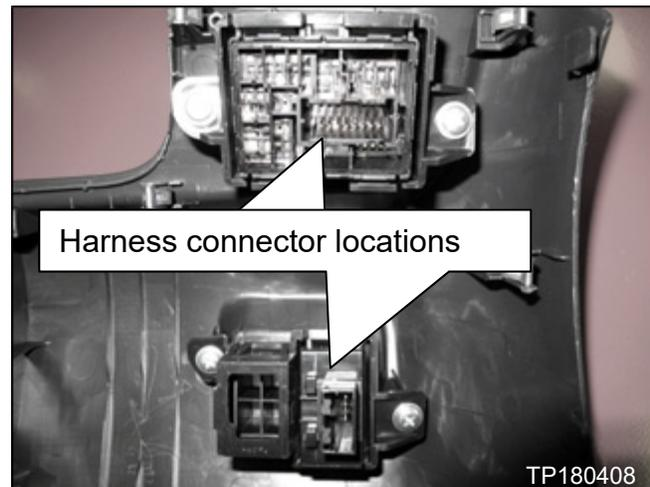

Figure 45
7. Disconnect the harness connectors from the back side of the instrument lower panel (LH).
- Figure 45 shows connectors already disconnected.